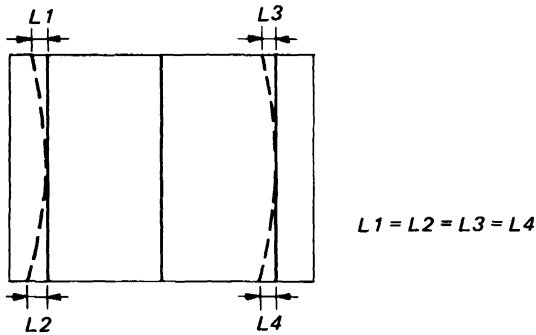

Fig. 3-64
- (13) If necessary, repeat above steps (10) through (12).
- (14) Adjust RV5517 (H PIN (R)) so that "L1", "L2", "L3" and "L4" are equal as shown in Fig. 3-64.